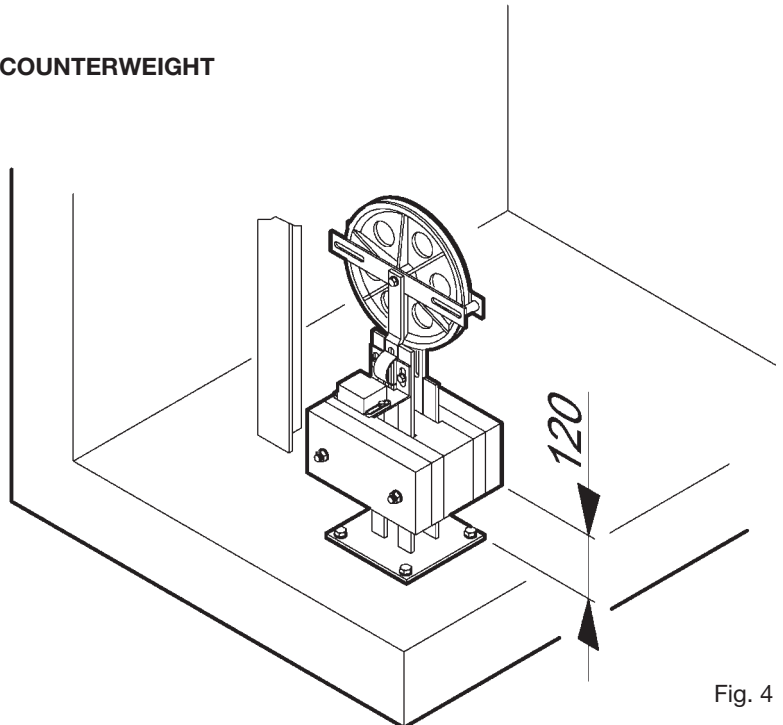

Fig. 4
- Mount the leading plate of the counterweight to achieve perfect alignment between the pulley of the overspeed governor and the pulley of the tension weight (fig. 4).
- Hold the counterweight, until it reaches a height of about 120 mm from the bottom of the shaft (approx. value) (fig. 4).